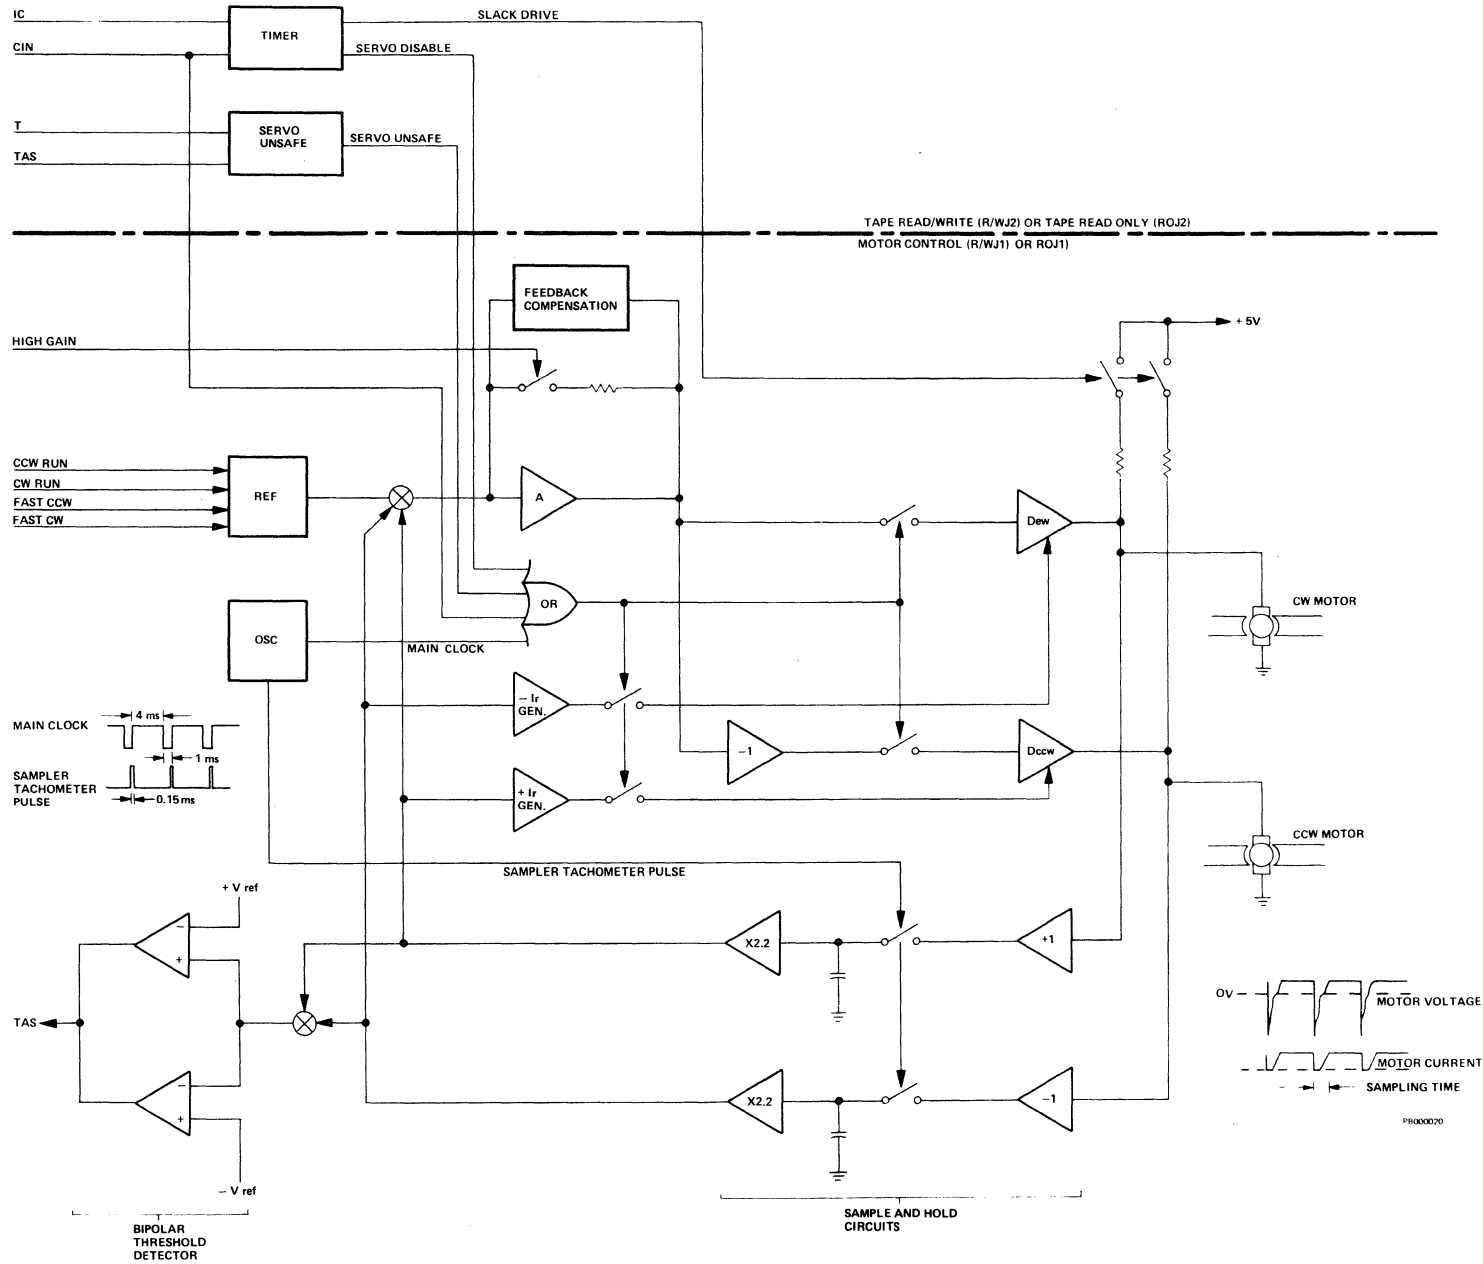

Figure 4-8. Motor Control Block Diagram
There are two Motor Control printed wiring assemblies associated with the system. One is located just behind the R/W magnetic tape transport in socket R/WJ1 and the other is located just behind the RO magnetic tape transport in socket ROJ1. Each provides servo control for its respective transport, as well as servo status indications. Figure 4-8 illustrates the servo loop configured about each motor. As can be seen, drive commands (CCW RUN, CW RUN, FAST CCW, or FAST CW) are applied to the R/W servo loop from the Tape Read/Write PWA or in the case of the RO servo loop from the Tape Read Only PWA. These commands cause a particular drive reference level. The polarity of this reference determines which motor will be driven, while the magnitude determines the speed at which it will run. This reference is summed together with the tachometer feedback signal to provide the servo error signal which drives the inverting amplifier (A). The inverted output from the amplifier drives the clockwise motor driver amplifier (DCW). Once this output has again been inverted, it is used to drive the counterclockwise motor driver amplifier (DCCW). When the input to either driver amplifier goes positive, current is applied to the respective motor. The driver amplifier will remain on during 80 percent of the Main Clock cycle. During the remaining 20 percent of the cycle or approximately one millisecond out of every five, the drive current is shut off, permitting the motor to operate as a tachometer.